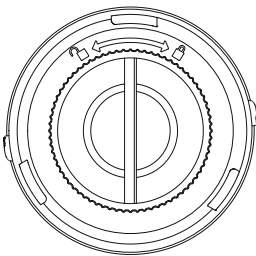

Fig. 7
1) Observe the "Lock" and "Release" symbols on the top of the HEPA filter (22). Move them as indicated by the arrow to remove the HEPA filter (22) from the insert (23) (see Fig. 7).
2) Rinse the parts with water and allow them to air-dry completely before putting them back into the dust container (6).